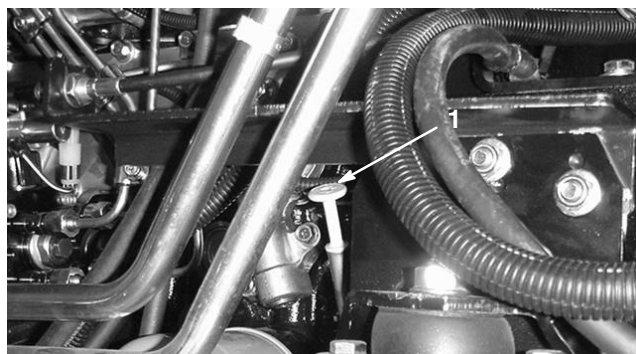

Figure 5
3. Remove dipstick (Fig. 5), wipe with a clean rag, and insert into tube until fully seated. Remove dipstick from tube and check oil level. If oil level is low, remove filler cap (Fig. 6). Add proper type of oil until level is between the upper and lower holes on the dipstick (Fig. 7). **Do not overfill.**